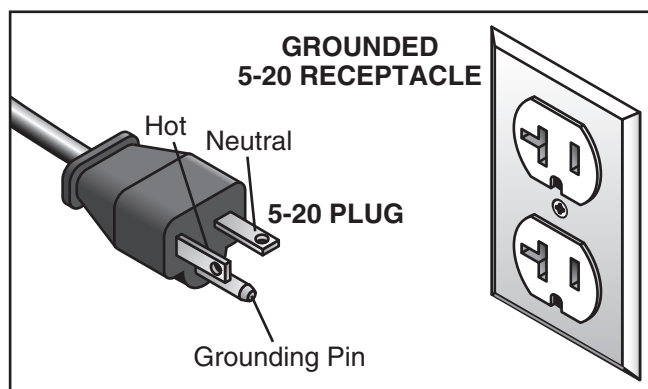

Figure 3. Typical 5-20 plug and receptacle.
14. Install a NEMA 5-20 plug such as the one shown in **Figure 3** onto the power cord, as illustrated in **Figure 10**. Refer to **SECTION 8: WIRING** starting on **Page 45** for detailed wiring diagrams.